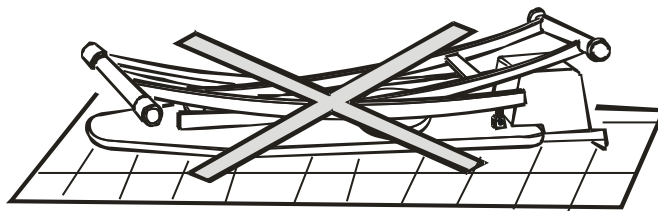
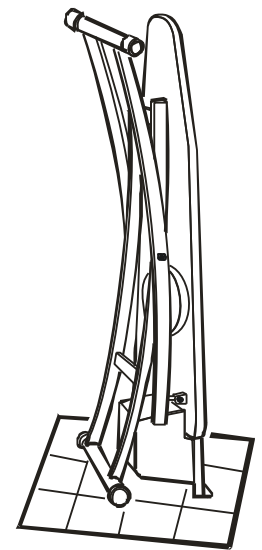

Fig. 5
Fig. 4
9. **ATTENTION:** put away Texi Smart S+B as shown (fig. 4). Never put it away upside down (fig. 5).